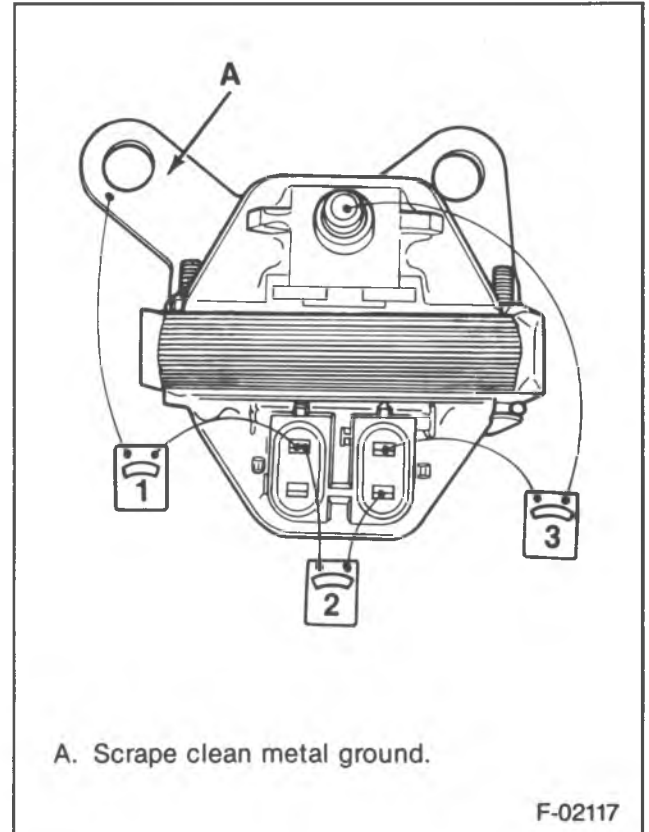

Figure 48 — Testing the Ignition Coil
2. Connect an ohmmeter as shown in figure 48, step 1. Use the high scale. The reading should be infinite. If not, replace the coil.